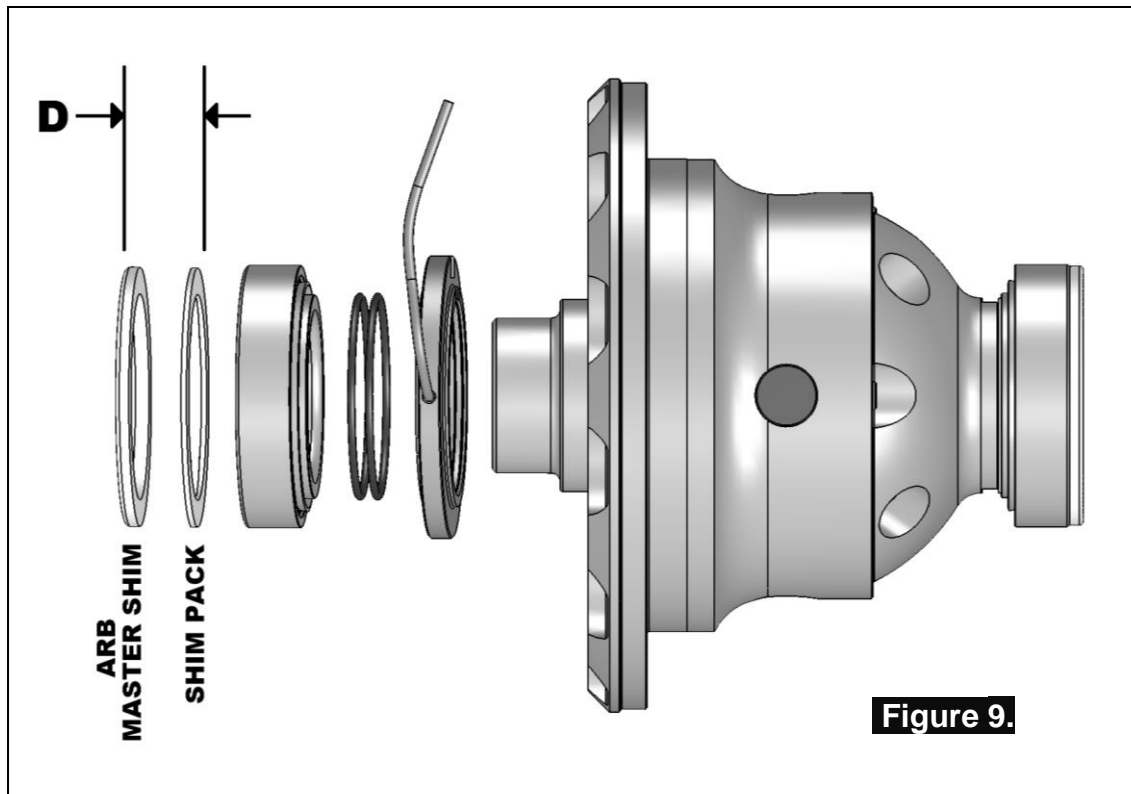

Figure 8.
- Mark a position on the top of the outside shell of the differential housing as shown in Figure 8.